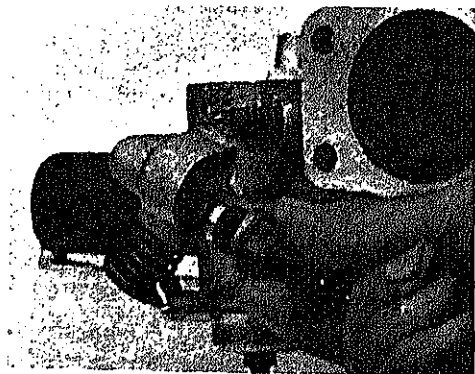

Fig 26. Dismantling nipple with fuel strainer
- ⑦ Nipple 9210 0401 with fuel strainer 9210 0403 Figs. 26—27